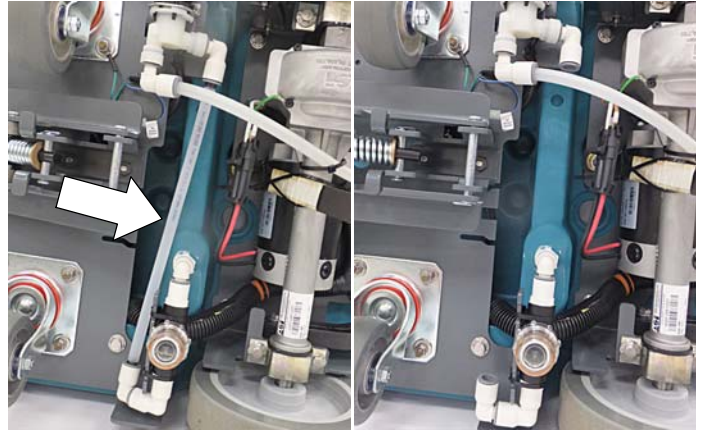

Fig. 15
- Remove the solution hose as shown. Do not discard hose, it will be utilized in step 8. Press the gray collar on fittings inward and pull the hose outward to remove hose from fitting (Figure 15).